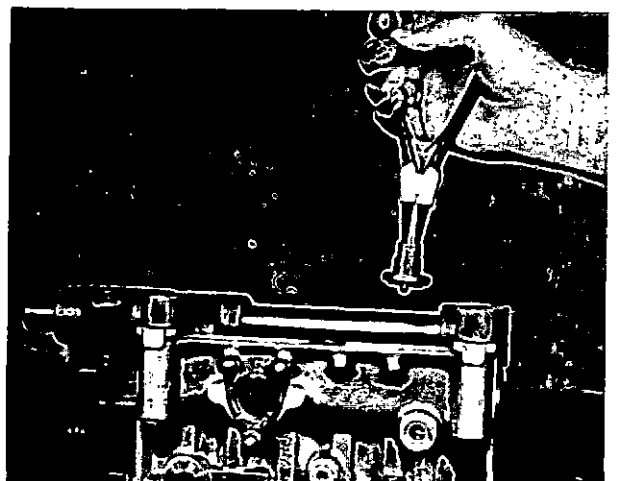

Fig. 16 Removing control sleeves and upper spring plates
12. Set the control rack to mid-position and remove the control sleeves and upper spring plates (fig. 16).